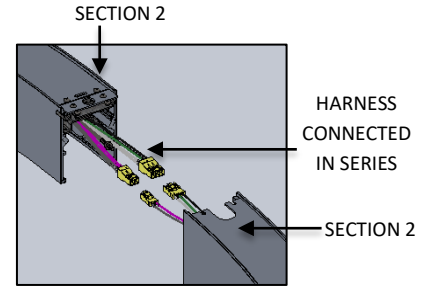

FIG. 18 – HARNESS CONNECTION
16. Connect the Wire Harness in series from section 1 and section 2 as shown in FIG. 18.